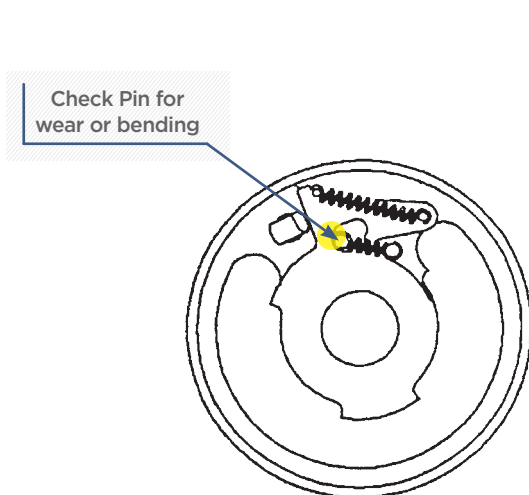
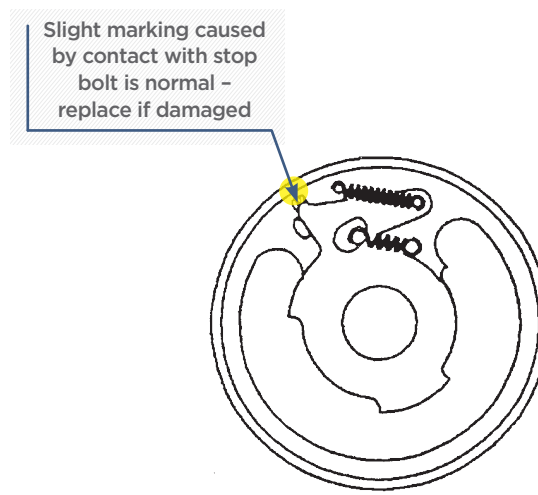

FIG. 8 Shift Key in "Up" Position
FIG. 9 Shift Key in "DN" Position
(3) Shift key (P3090043P) should be examined for breakage or bending, particularly the camming surfaces. **Fig. 8** and **Fig. 9** show the correct position of the shift key when the shift key finger (O19296P) is in "UP" or "DN" position.
- (4) Shaft (P3090791P). Factory replacement of this part is seldom necessary on hoists returned for repair. Replacement is generally required because of extreme mistreatment of the hoist: Breakage of the ratchet teeth caused by severe shock loading, repeated self-ratcheting, severe impacts to the hoist, or allowing foreign matter to be carried into the chain pockets and wedging, causing breakage of the chain pocket sides.
- (5) Unloader plate (E3090356P) inspect for breakage or wear on camming surfaces. Refer to **Fig. 9**. Depending on the age of the hoist, one of two unloader plate and working dog styles may be used (refer to **Fig. 10**). Both are inspected in the same manner